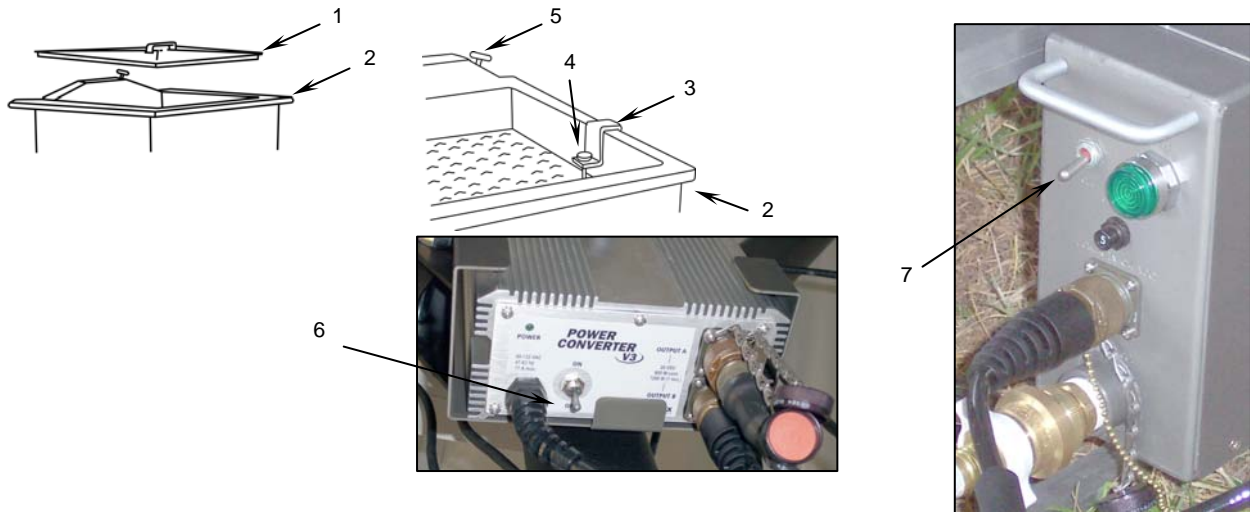

Figure 25. Preparing the Sinks for Operation.
- a. Remove the covers (**Figure 25, Item 1**) from the sink assemblies (**Figure 25, Item 2**).
- b. Ensure the thermometer brackets (**Figure 25, Item 3**) and thermometers (**Figure 25, Item 4**) are attached to the sink assemblies (**Figure 25, Item 2**).
- c. Close the sink drains by rotating the drain knobs (**Figure 25, Item 5**) $\frac{1}{4}$ turn clockwise.
- d. If not already done, move the power converter power switch (**Figure 25, Item 6**) to ON.
- e. If not already done, move the sink fill pump assembly power switch (**Figure 25, Item 7**) to ON.